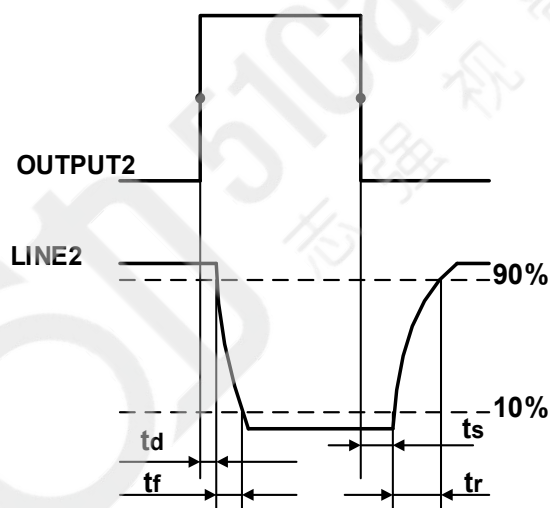

Figure 7-12 Parameter of Line2 output circuit
- Rising time delay = $t_r + t_d$: < 20 μs (0 °C ~ 45 °C) (parameter description as shown in Figure 7-12)
- Falling time delay = $t_s + t_f$: < 20 μs (0 °C ~ 45 °C) (parameter description as shown in Figure 7-12)